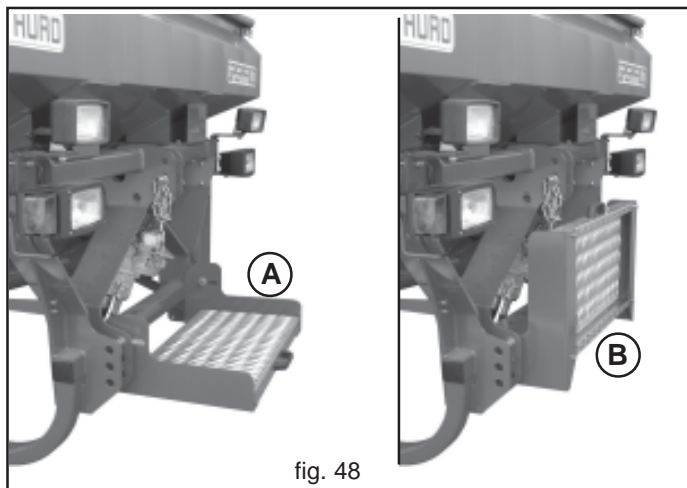

fig. 48
Hoppers and tanks can be filled by hand or using a lifter with a capacity of at least 200 kg, which must be regularly approved by the relative authorities. Please remember that lifting weights of more than 25 kg requires more than one operator or the use of hoisting apparatus. In the event of manual loading, use the platform (A, Fig. 48) to reach the hopper of the equipment. Always fold the platform as shown in Figure 48 (B) during the work and during road transport.